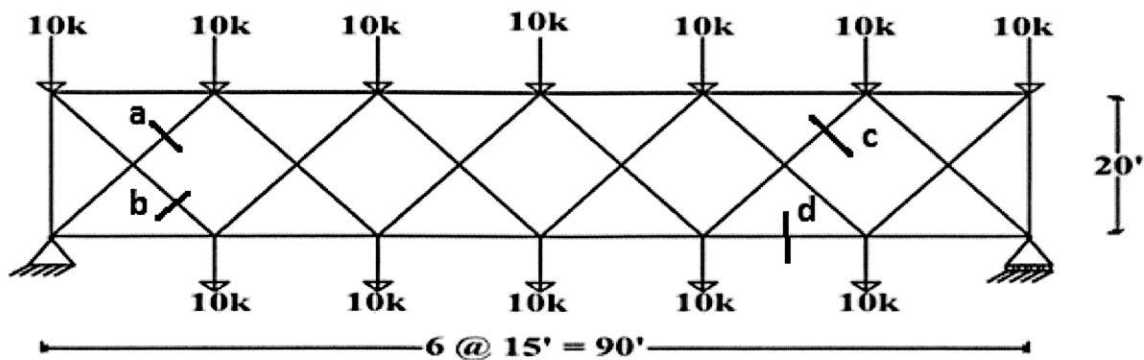

Figure2
2. For the cross braced truss shown in **figure 2**, calculate bar forces of a,b,c and d using **Approximate Approach**. Assume diagonals can not carry compression.